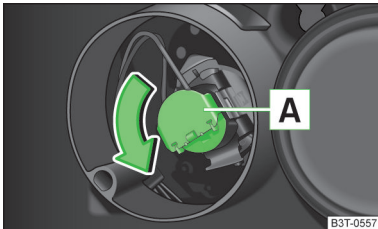

Fig. 200
- Turn the plug with the bulb **A** » Fig. 200 as far as the stop in the direction of the arrow.